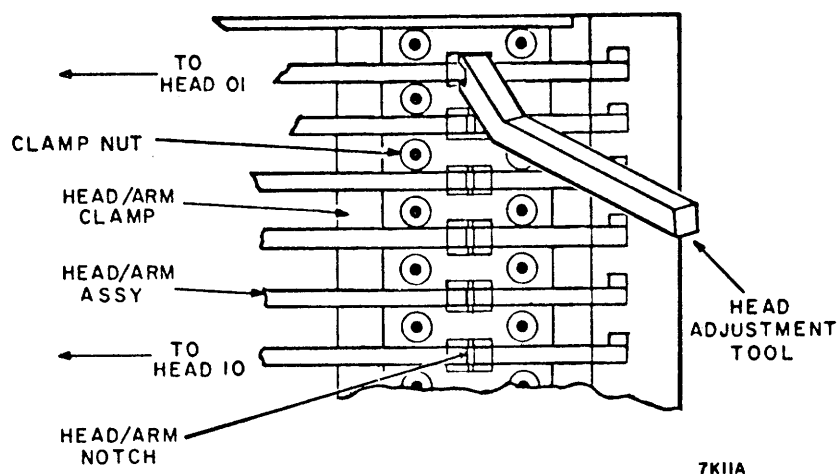

Figure 6-5. Head/Arm Assembly Adjustment
16. Refer to Figure 6-5 and place slot in end of head adjustment tool (P/N 87350700) over head/arm assembly so that tips of tool enter carriage groove and bottom of tool slot engages head/arm notch.